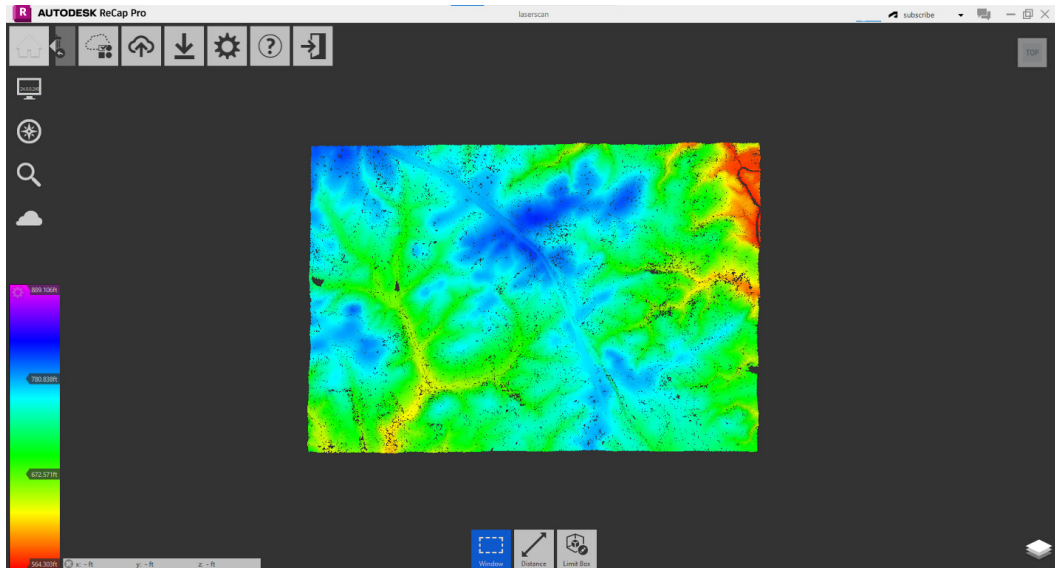

Figure 5.8 – Elevation color mode
- 7. With **Elevation** selected, we should see something more similar to *Figure 5.8*. We can see almost a colorized version of contours that we may be used to. We can see land variations with high and low spots and even a roadway running through the middle. In the top-right corner of your screen, you should see a gray cube that says **Top**. This is a view cube to help us see different perspectives of the dataset.